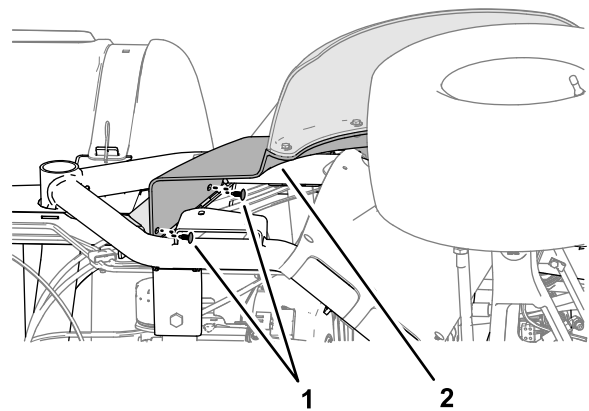

Figure 101
5. Secure the right, front fender to the roll bar mounting channel with 2 push-in fasteners (Figure 101).